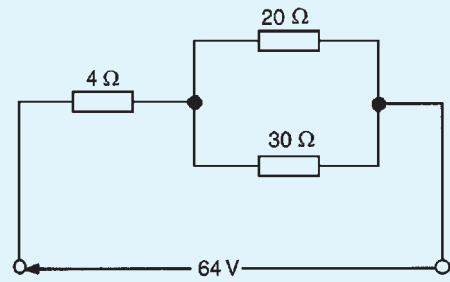

Figure 5.31
7. (a) Calculate the current flowing in the $30\ \Omega$ resistor shown in Fig. 5.31 (b) What additional value of resistance would have to be placed in parallel with the $20\ \Omega$ and $30\ \Omega$ resistors to change the supply current to $8\ \text{A}$, the supply voltage remaining constant. [(a) $1.6\ \text{A}$ (b) $6\ \Omega$]